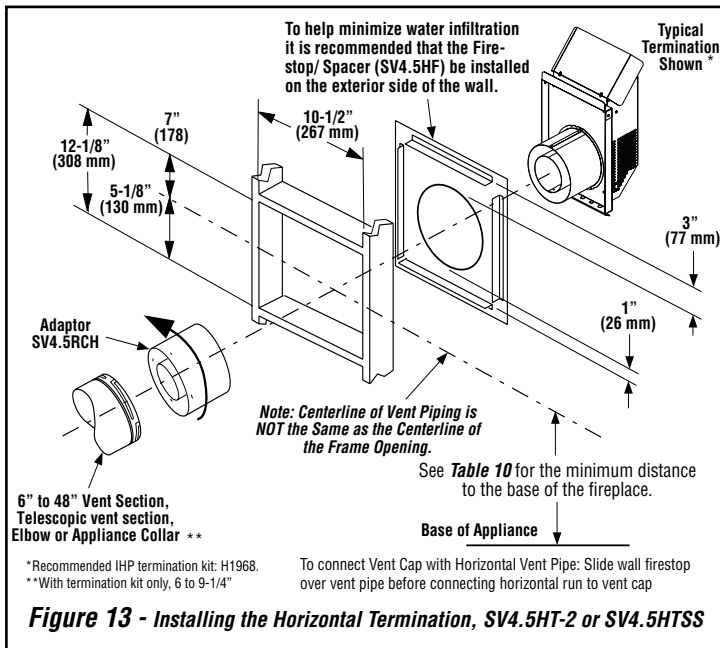

Figure 13 - Installing the Horizontal Termination, SV4.5HT-2 or SV4.5HTSS
4. Carefully determine location where vent pipe assembly will penetrate outside wall. Mark center line of pipe on wall. Mark wall for a 12-1/8" x 12-1/8" square hole, where bottom of square starts 5-1/8" below center line of pipe (see Figure 13). This will provide the 3" minimum spacing needed on top of horizontal pipe. Cut and frame 12-1/8" x 12-1/8" rectangular hole in exterior wall where vent will be terminated. If wall being penetrated is constructed of noncombustible material, such as masonry block or concrete, an 8" hole with zero clearance is acceptable.